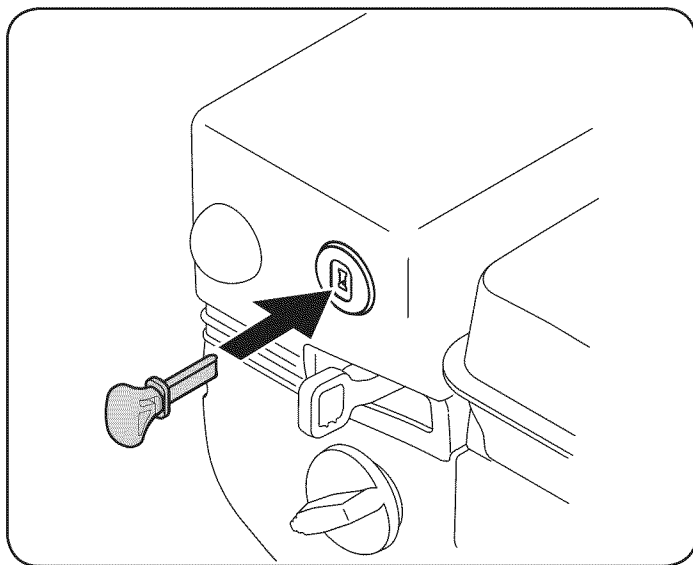

Figure 8
2. Insert the key fully into the slot, Figure 8. Make sure it snaps into place. DO NOT turn the key; doing so might cause it to break. The engine cannot start unless the key is inserted into the ignition switch.
1. Insert the key fully into the slot, Figure 8. Make sure it snaps into place. DO NOT turn the key. The engine cannot start unless the key is inserted into the ignition switch.
4. Push the primer three (3) times, making sure to cover the vent hole when pushing. If the engine is warm, push the primer only once. Always cover the vent hole when pushing. Cool weather may require priming to be repeated.